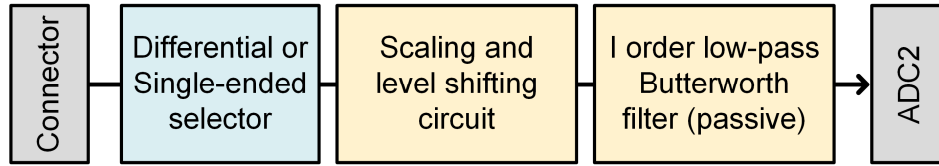

Figure 6. ADC2 measurement chain.
ADC2 interface is similar to the previously depicted ADC1, except for the low-pass filtering path that is composed by a simple RC filter with impedance matching circuit. Signal conditioning chain is highlighted in Figure 6. Input circuit devoted to scaling and level shifting exhibits the same gain as shown in (1). Each analog input can be configure as single-ended or differential by connecting proper board pads. Moreover, all channels can be configured independently for unipolar or bipolar input. Detailed information are available in Table 4.